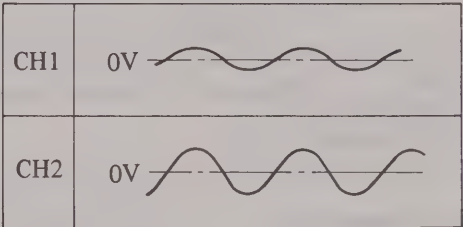

Fig. 2
When either the CH1 or CH2 input signal is smaller as shwon in Fig.2 , adjust the VOLTS/DIV switches (13) and (14) to obtain sufficient amplitudes.